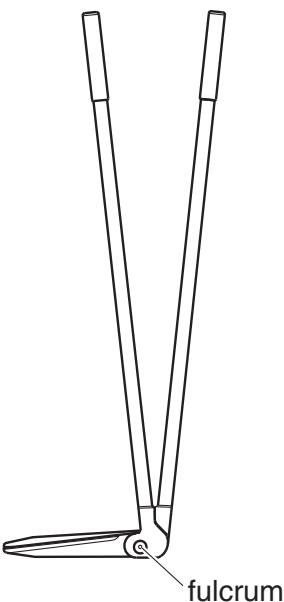

Fig. 3
- 2 Fig. 3 shows an outline drawing of lawn edge shears which use a lever action.
- (a) (i) Indicate on Fig. 3 the position of the **effort** and **load** that will give the **maximum** mechanical advantage. [2]